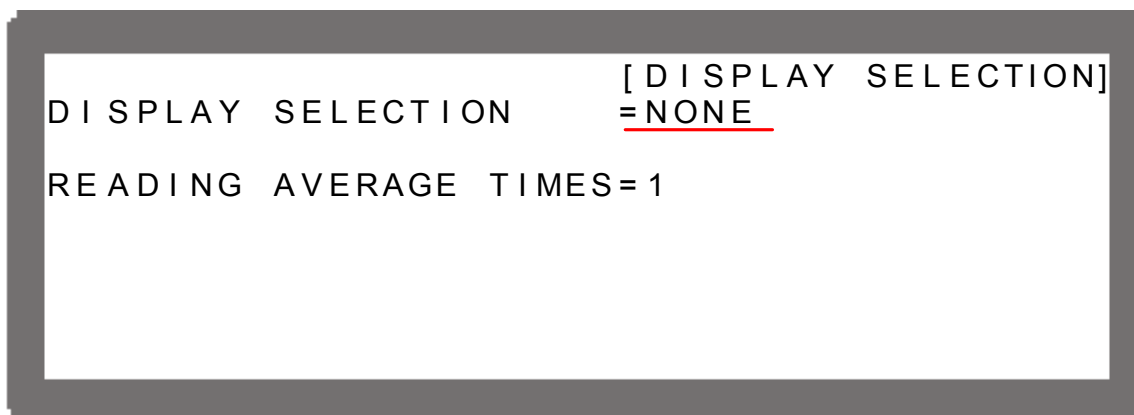

Figure 3-68
2. Press “” to enter into DISPLAY SELECTION as Figure 3-68 shows.
1. Use “”, “” keys to move the cursor to the column to be set as Figure 3-68 shows.